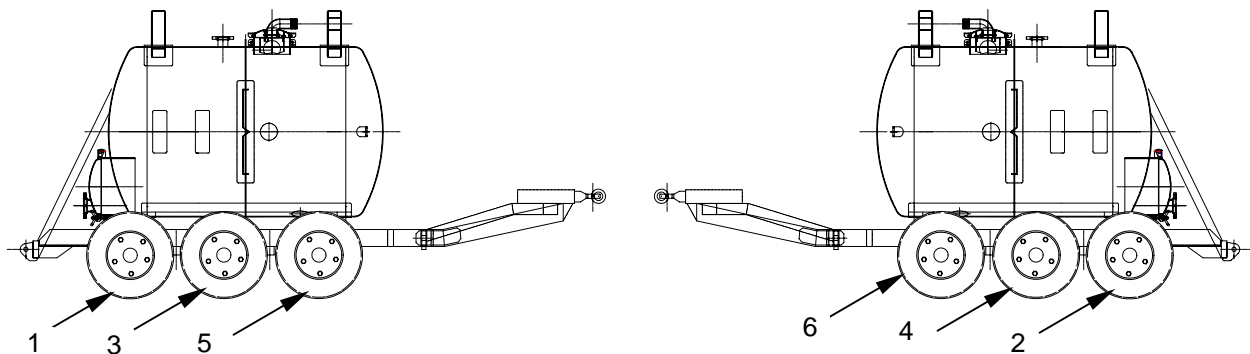

Figure 9. Brake Line Bleeding Sequence
- o. Repeat the bleeding operation as described in steps h through m in the sequence pictured in Figure 9.